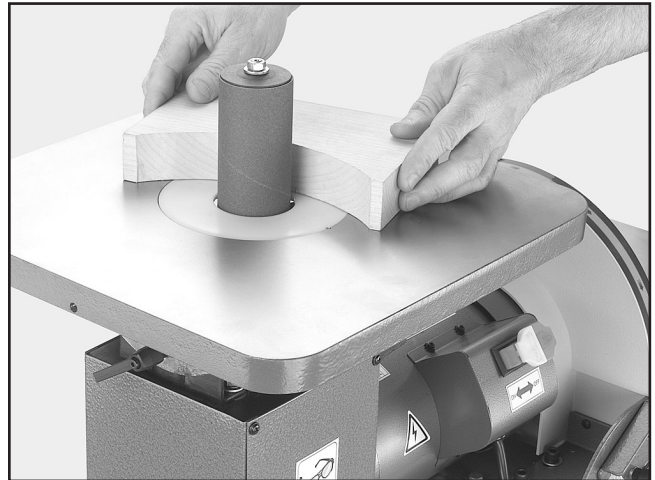

Figure 18. Spindle sanding.
3. To sand straight edges, firmly hold the side of workpiece against the miter gauge (set at 0°), with the other surface against the face of the disc (**Figure 18**).